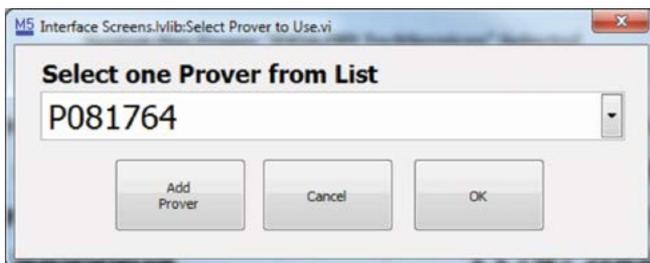

Figure 76: Prover ID OK
4. Upon clicking the proper Prover ID, the change will be reflected in the box as shown in **Figure 76**. Click "OK."